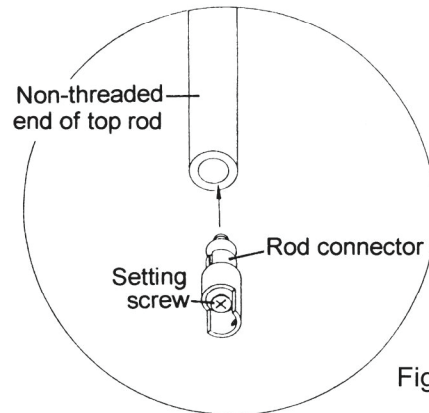

Figure 11
- d. Insert the rod connector into the non-threaded end of the top rod and tighten set screw securely. (See Figure 11.)